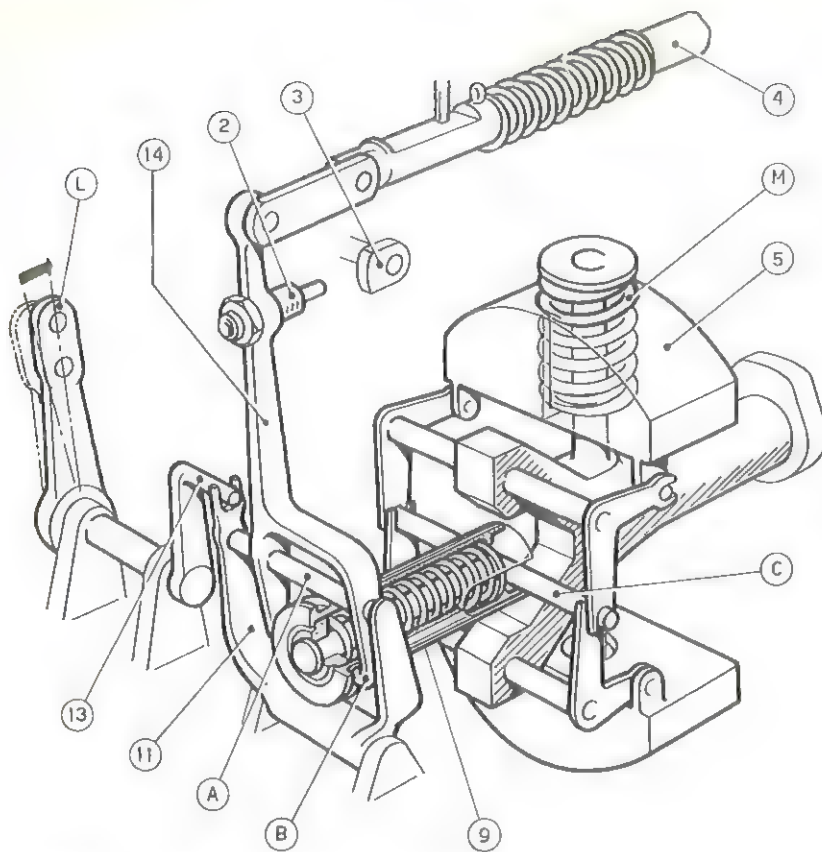

Fig. 24. - Schematic drawing showing operation of speed governor with control lever (L) in 1/4 run position (see fig. 23).
In fig. 24 the sketch illustrates the operation of the speed governor in the case of an engine functioning at practically constant speed and with the outside control lever (L) positioned at about 1/4 of its maximum run. Any variation of speed will thus result in a change of position of the fly-weights (5) which will shift the pivot point (C) to the left if speed decreases and to the right if speed increases. This movement will make the override device (9) move rigidly causing lever (14) to float on pivot (A) thus shifting control rod (4) to increase or reduce fuel supply.
When the accelerated engine tends to reach the desired condition of equilibrium and the fly-weights moving outwards shift the pivot (C) to the right, the load initially applied on the coil spring of the override device (9) lessens and the plunger returns to rest position bearing against the spring sleeve as at the starting position (fig. 24).